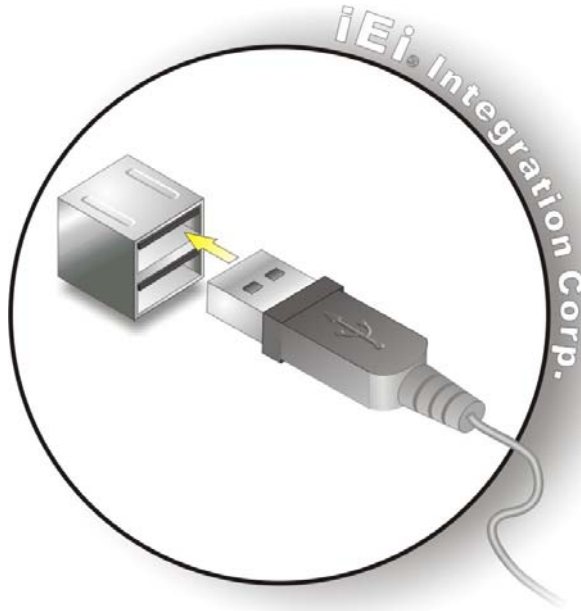

Figure 4-18: USB Connector
Step 2: Insert a USB 3.0 plug. Insert the USB 3.0 plug of a device into the USB 3.0 on the external peripheral interface. See Figure 4-18.